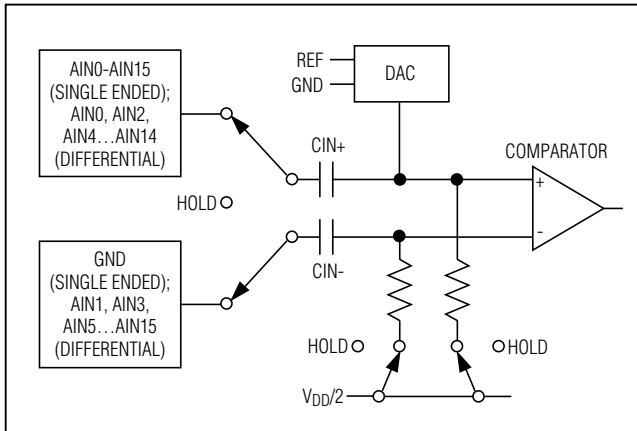

Figure 3. Equivalent Input Circuit
**Note 6:** See Figure 3 (Input Equivalent Circuit) and the *Sampling Error vs. Source Impedance* curve in the *Typical Operating Characteristics* section.
The MAX1227/MAX1229/MAX1231 use a fully differential ADC for all conversions. The analog inputs can be configured for either differential or single-ended conversions by writing to the setup register (see Table 3). Single-ended conversions are internally referenced to GND (see Figure 3).
The equivalent circuit of Figure 3 shows the MAX1227/MAX1229/MAX1231s' input architecture. In track mode, a positive input capacitor is connected to AIN0-AIN15 in single-ended mode (and AIN0, AIN2, AIN4...AIN14 in differential mode). A negative input capacitor is connected to GND in single-ended mode (or AIN1, AIN3, AIN5...AIN15 in differential mode). For external T/H timing, use clock mode 01. After the T/H enters hold mode, the difference between the sampled positive and negative input voltages is converted. The time required for the T/H to acquire an input signal is determined by how quickly its input capacitance is charged. If the input signal's source impedance is high, the required acquisition time lengthens. The acquisition